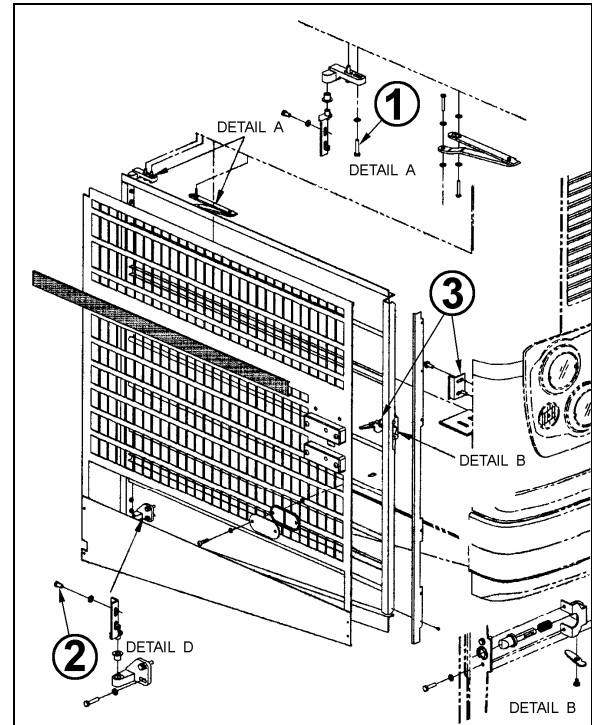

FIGURE 60: RADIATOR DOOR
1. Loosen the bolts, (1, Fig. 60) holding the hinge to the vehicle structure to shift the door "IN or OUT" and "UP or DOWN".
2. Loosening the bolts (2, Fig. 60) allows the door to be shifted "LEFT or RIGHT" and "UP or DOWN".
To adjust the latch mechanism (3, Fig. 60) and the striker pin: